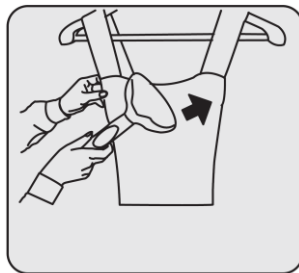

Fig.9
- Then put the steam nozzle against the cloth firmly, gently press downwards, and then drag the nozzle up and down. Softening the fiber by the high temperature steam, and then fixing the shape with the pulling force. (See Fig.9)